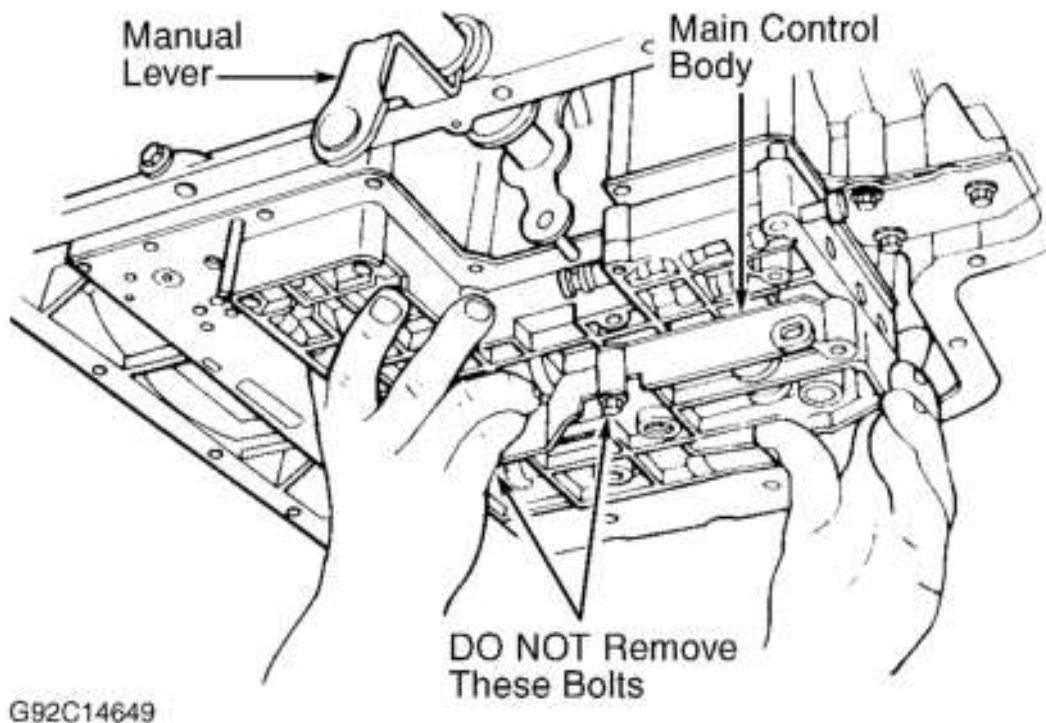

Fig. 4: Removing Main Control Valve Body
2. Loosen oil pan bolts and drain fluid. Remove oil pan, filter and "O" ring. DO NOT scratch or damage aluminum pump bore when removing "O" ring. Remove accumulator body. Remove main control body retaining bolts. DO NOT remove center 2 bolts. See **Fig. 4**. This keeps upper and lower valve body together during disassembly. Remove main control body.